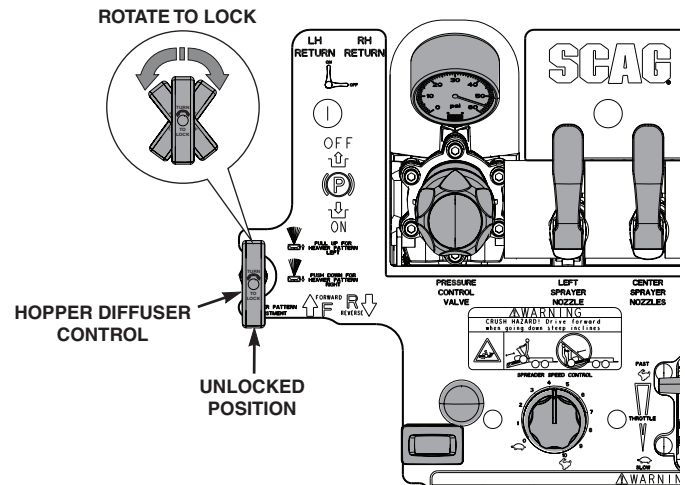

Figure 4-19. Hopper Diffuser Control
6. Use the hopper diffuser to adjust where the material falls on the spreader impeller. This will adjust the spread pattern of the spreader. (If the spreader is spreading heavily to one side this adjustment will need to be made until the spread pattern becomes centered (make adjustments in small increments). Refer to section 4.11D, Figure 4-19.
3. Rotate the hopper diffuser handle to lock the control. See Figure 4-19.